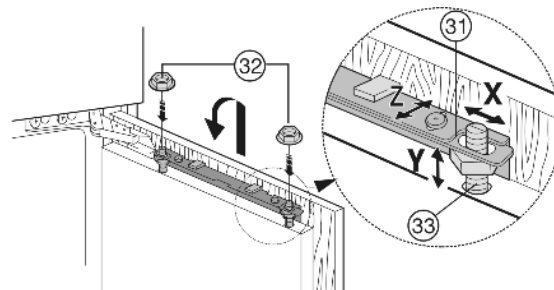

Fig. 24
- ▶ Attach the unit door on the adjusting bolts Fig. 24 (33) and loosely screw the locknuts Fig. 24 (32) onto the adjusting bolts.
- ▶ To align the unit door in height and in lateral inclination: Adjust the adjusting bolts Fig. 24 (33) with a screwdriver.
- ▶ Tighten the locknuts Fig. 24 (32).